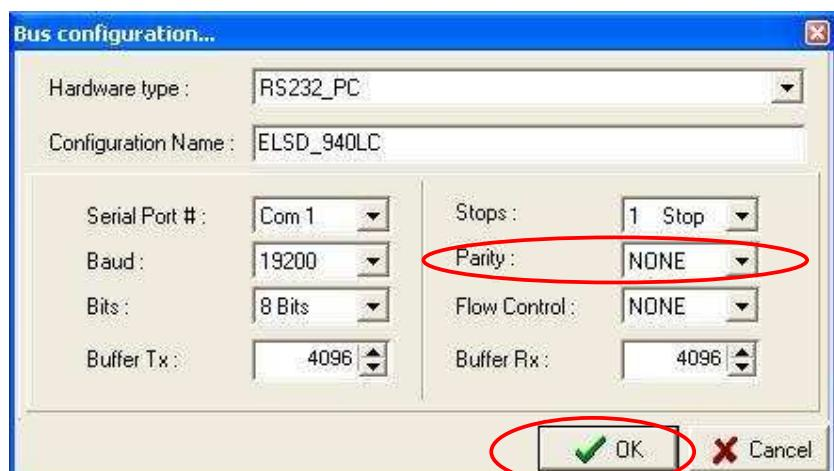

Figure 3: Setting Up the ELSD Configuration
2. The following window (Fig 3) should then appear. You can give the configuration name anything that you desire. For the purposes of this example lets call it **ELSD_940LC**.